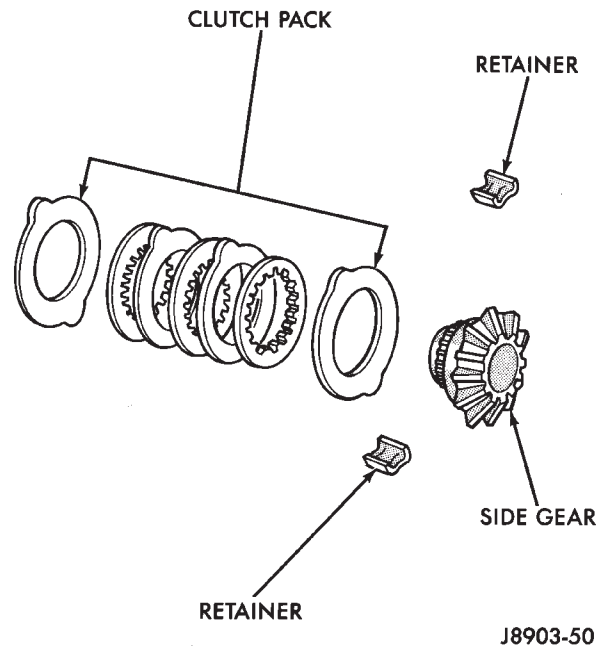

Fig. 13 Clutch Disc Pack
- (2) Assemble the clutch discs into packs (Fig. 13).
- (3) Secure disc packs with retaining clips (Fig. 13).
- (4) Position assembled clutch disc packs on the side gear hubs.